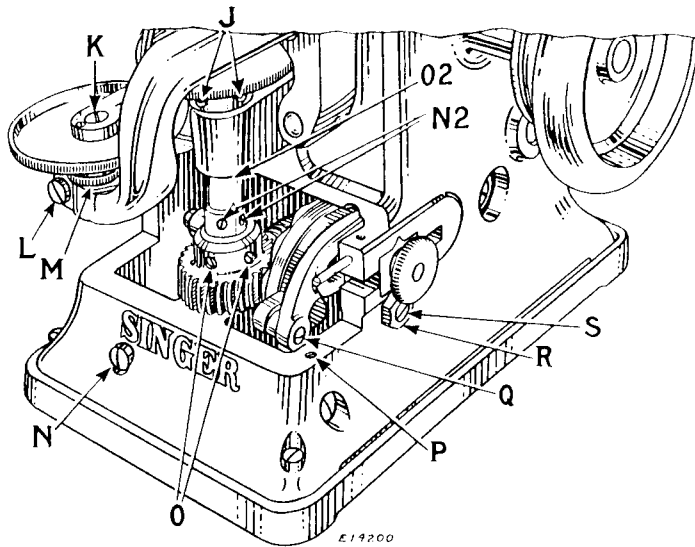
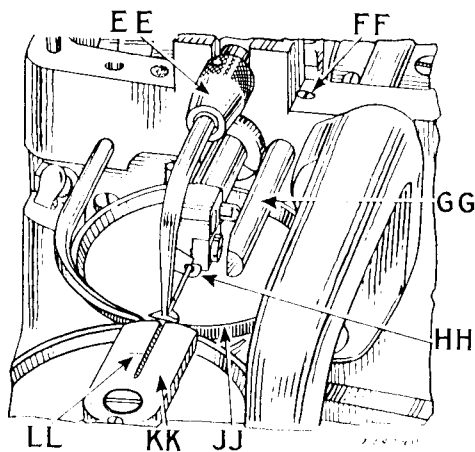
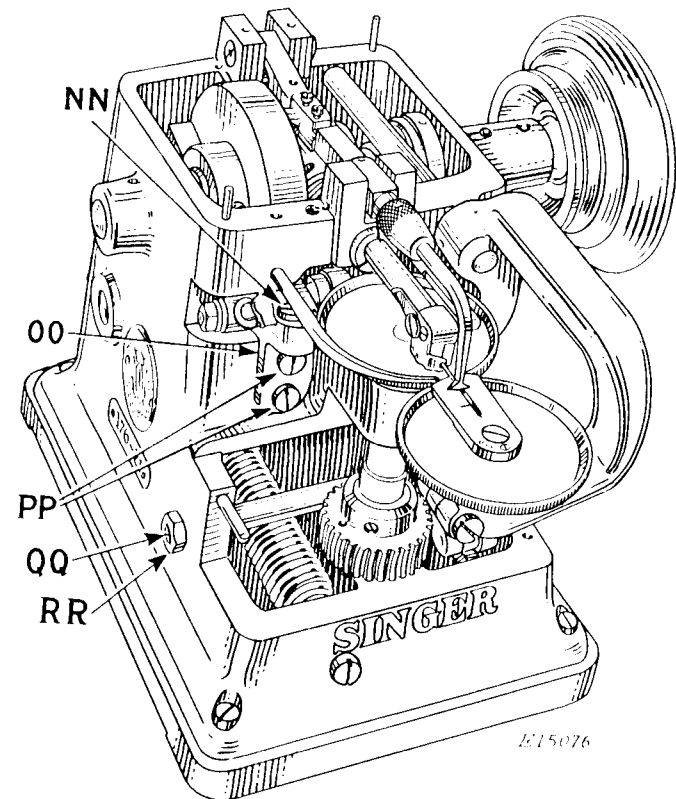
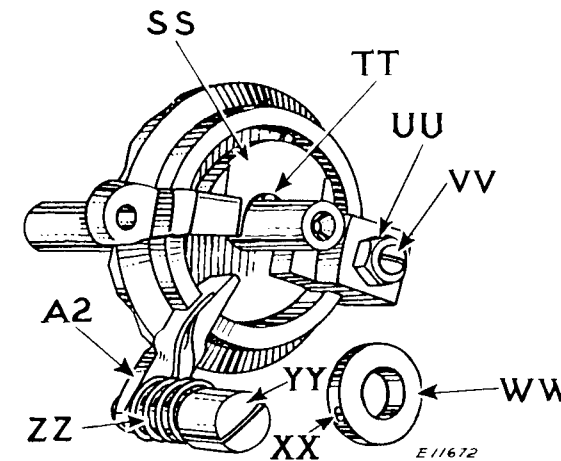

Fig. 10. Adjusting the Feed Discs
Fig. 12. Setting the Needle Bar
Fig. 13. Adjustments on the Loooper
Fig. 14. Adjustment of Feed Clutch
The pressure between the feed discs may be increased by turning the screw (N, Fig. 10) to the right, or decreased by turning this screw to the left. Do not use a heavier pressure than is necessary for positive feeding of the work.
TO ADJUST THE REAR DISC ON MACHINES 176-21, 176-22, 176-23 and 176-24, loosen the two set screws (N2, Fig. 10) in the back feeding disc shaft reinforcing sleeve; also loosen the two set screws (O, Fig. 10) in the hub of the back feeding disc worm gear; then, by means of the left hand treadle, hold the front disc disengaged from the back disc and set the back disc up or down as required. With the worm gear down against its seat, tighten the two screws (O), then tighten the two screws (N2) in the reinforcing sleeve, making sure that the upper end of the sleeve is against the machine casting at (O2, Fig. 10).
TO ADJUST THE FRONT OR IDLER DISC ON MACHINES 176-21, 176-22 and 176-23, loosen the screw (L, Fig. 10) and adjust the disc to the needle by turning the knurled flange of the disc stud (M, Fig. 10) to the left to lower the disc, or turn the knurled flange to the right to raise the disc. Should the needle guard be in the way of the needle while making this adjustment, loosen the screw (K, Fig. 10) and turn the guard aside, then retighten the screw (K) slightly. When the disc is set at the correct height, loosen the screw (K), move the needle guard back into position so that the needle will be located centrally in the needle groove of the guard and securely tighten the screw (K).
To remove the idler disc, remove the screw (K, Fig. 10) and lift off the idler disc, being careful not to lose the bearing rollers for this disc.
To remove the rear or feeding disc, loosen the two set screws (O, Fig. 10) in the hub of the back feeding disc worm gear; also loosen the two screws (N2, Fig. 10) in the reinforcing sleeve and loosen the two screws (J, Fig. 10) in the hub of the back feeding disc, then drop the feeding disc shaft down until the feeding disc can be removed.
(LL, Fig. 12) on the needle guard when the needle bar is all the way forward and the feed discs are together.
ON MACHINE 176-24, the needle bar should be set so that the front end of the needle bar tension plate (HH, Fig. 12) is about 1/32 inch from the rim of the feeding disc (JJ) when the needle bar is all the way forward.
With the needle bar and feed discs properly adjusted, insert the shank of the looper in the holder and tighten the clamping screw (EE, Fig. 12) sufficiently to insure that the looper will remain in position while making adjustments. Turn the balance wheel until looper is at extreme front end of its stroke, when it
should stand about centrally over the groove in the needle guard as shown in Fig.13; also adjust it in or out so that it covers about half of the needle eye and leaves half of the needle eye visible when looking straight down the front of the looper as shown in Fig.13.
Adjust the looper for height by loosening the screws (PP, Fig. 13) and moving the bracket (OO, Fig.13) up or down until the looper clears the needle guard a scant 1/16 inch, then tighten the screws (PP, Fig.13, page 13). After the clamping nut (EE, Fig.12, page 12) is finally tightened, a test should be made with the machine running at full speed - to make sure that the looper does not strike the needle guard.
Now turn the balance wheel until the looper has moved to the extreme end of its backward stroke, and adjust it sidewise until the looper nearly touches the needle at the top of its sloping surface as shown in Fig.12. If the needle does not clear the sloping top surface of the looper heel, loosen screw (NN, Fig.13, page 13) and move the top portion of looper bracket (OO, Fig.13) forward, or outward, thus lowering the looper on its extreme back stroke until the needle just clears, but does not touch, the sloping top surface of the looper heel, as shown in Fig.12, page 12, FIRST properly setting it for height above the needle guard. If the needle comes too far above the heel of the looper, loosen screw (NN) and move the top portion of bracket (OO) backward, or inward. When correct adjustment is made, firmly tighten the screw (NN).
The post (GG, Fig.12, page 12) should be moved inward (toward the machine) for a later release, or outward (away from the machine) for an earlier release of the thread, after loosening the small set screw (FF, Fig.12, page 12).
First take the machine off the base-plate, then remove screw (Q, Fig.10, page 10). Loosen the small set screw (P, Fig.10) and disengage the retaining dog (A2, Fig.14, page 15) from the rim of the gear, removing it through the bottom of the machine. Then loosen the lock nut (R, Fig.10) and back out the screw center (S, Fig.10) until the gear with the clutch can be lifted out.
Loosen the set screw (XX, Fig.14) and remove the collar (WW). Loosen lock nut (UU) and remove the feeding disc worm wheel driver (SS) from the gear. Remove the spring and plunger pin from the worm wheel driver at (TT), then replace the worm wheel driver
When replacing the feed clutch and gear, adjust the screw centers (S, Fig.10, page 10) and (QQ, Fig.13, page 13) until the gears mesh closely without binding and the gear shaft turns freely but without end play. Then tighten the lock nuts (R, Fig.10, page 10) and (RR, Fig.13, page 13). When replacing the old clutch gear in the machine, the left screw center (QQ, Fig.13) need not be disturbed. When replacing the old clutch gear with a new one, both screw centers should be adjusted as instructed above.
Insert the screw (Q, Fig.10, page 10) in the feed connection. Replace the worm wheel stop dog (A2, Fig.14) in position on the rim of the gear, and wind the spring (ZZ, Fig.14) to a moderate tension by turning the stud (YY, Fig.14) a fraction of a turn, with a screwdriver, toward the right. Then, being careful not to
apply any end thrust (which would jam the worm wheel stop dog against the gear), tighten the set screw (P, Fig. 10, page 10) to hold the stud. The stop dog (A2, Fig. 14) should float free, except for spring tension, in order to adjust itself properly to the rim of the gear.
ON MACHINES 176-23 AND 176-24, the clutch jaws are not adjusted as described on page 15, but both jaws are easily replaced when worn. When replacing the feed clutch, the stud (similar to YY, Fig. 14) should be turned to the left instead of to the right to apply pressure against the stop dog, since the clutch turns in the opposite direction from that on Machines 176-21 and 176-22.